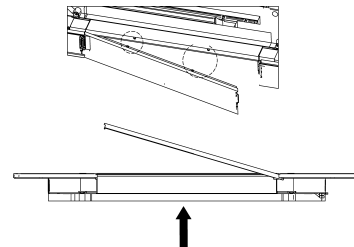

Fig. 4
- Force applied as per arrow marked direction from center of cover (See Fig. 4) ensure encircled locks should be open